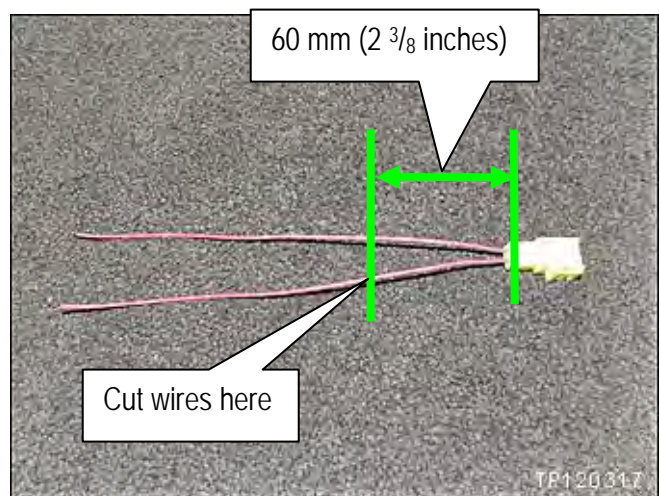

Figure CR14
- Cut the wires on the **new** SAB connector 60 mm (2 ³/₈ inches) from the back side of the connector (see Figure CR14).